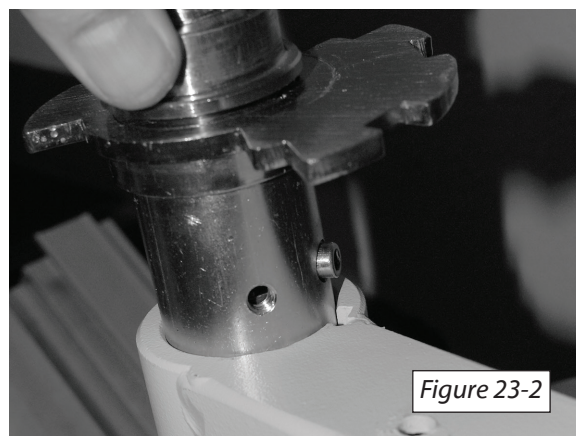

Figure 23-2
2. Place the rooster into the hole on the uphill side of the chassis. *[Figure 23-2]* Align the remaining screw with the slot on the post hole.